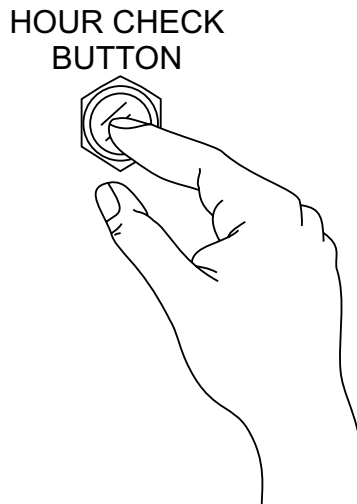

Figure 87. Hour Check Button
1. With the engine stopped (**OFF**). Push and hold the **Hour Check Button** (Figure 87) located on the control panel.